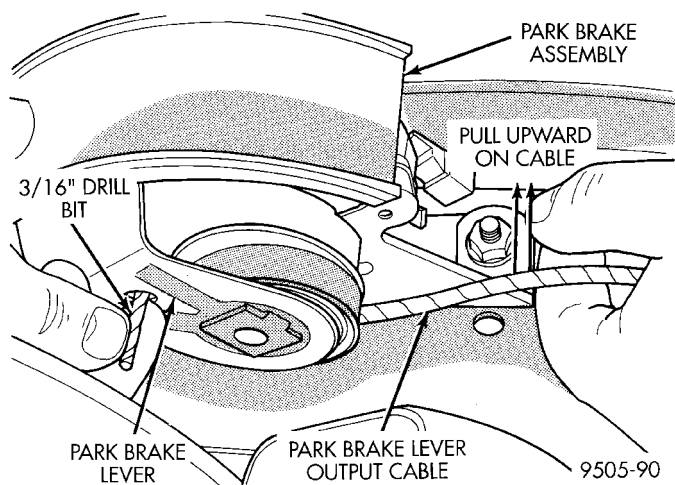

Fig. 137 Locking Pin Installed In Park Brake Mechanism
- (5) Lower park brake lever handle.
- (6) Grasp park lever output cable by hand and pull rearward (Fig. 137). Continue pulling on cable until a 3/16 in. drill bit can be inserted into handle and sector gear of park brake mechanism (Fig. 137). This will lock the park brake mechanism and take tension off park brake cables.